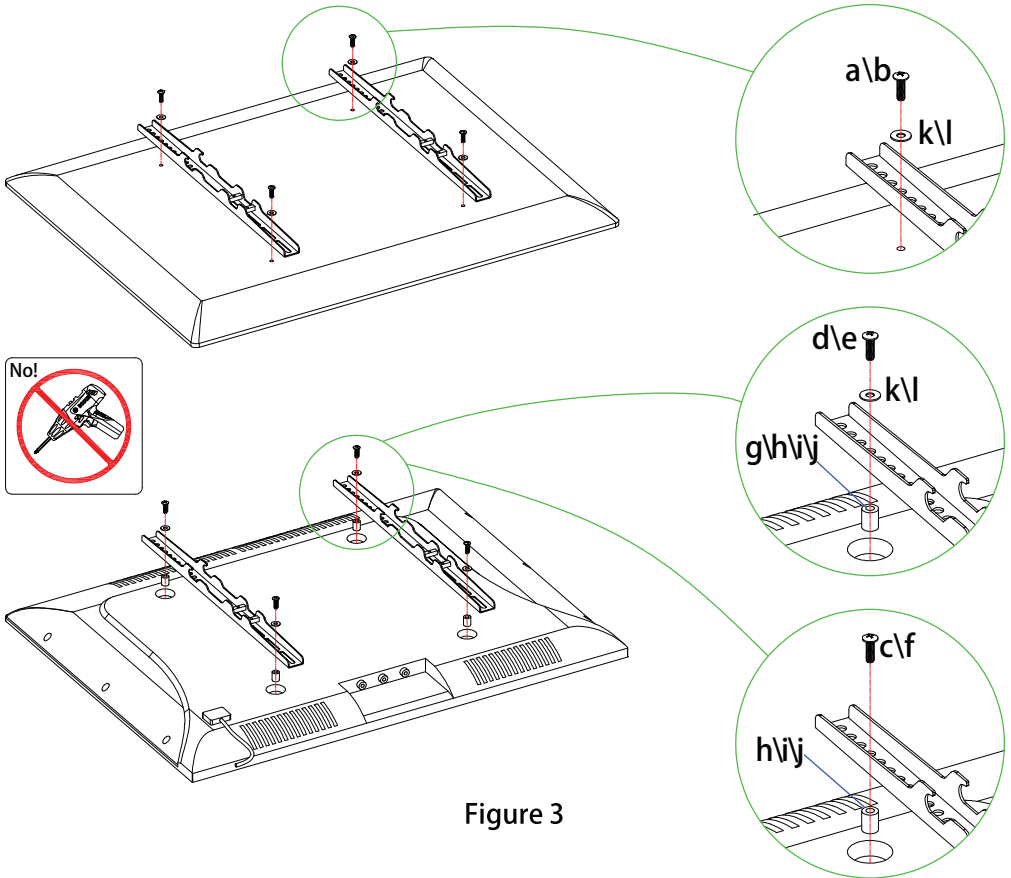

Figure 3
Step 2: Attach TV Bracket B to the back of TV, choose corresponding bolt, washer and spacer to fix the holes of TV rear. (Figure 3) If the back of TV is not flat, or the bolts used to assemble TV are too long, or there is interfere between TV bracket and cable inlets, we highly recommend you to use spacers.